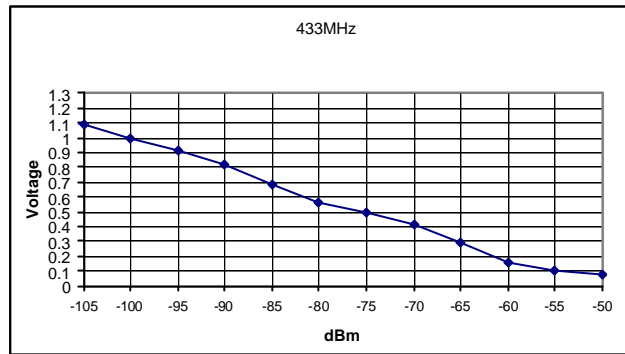

Figure 4 RSSI Output
2. The serial inputs and outputs are intended for connection to a UART or similar low voltage logic device. Do not connect any of the inputs or outputs directly to an RS232 port. The transceiver module may be permanently damaged by the voltages (+/- 12V) present on RS232 signal lines. See Application Circuit (Figure 4) for typical connection to an RS232 port via MAX232 interface IC.
Figure 4 shows the interface of the Easy-Radio ER400TRS Transceiver to a PC AT RS232 port. A MAX232 provides the necessary voltage level shifting required to send and receive serial data at the typical +/- 12V RS232 signal levels. This IC also inverts the RS232 signal to match those required by the Easy-Radio Transceiver.